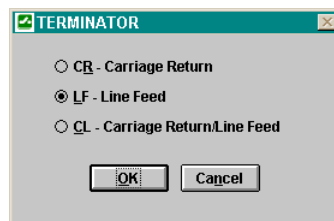

Figure 60 Terminator Window
7. Click the **Terminator** button to open the TERMINATOR window (Figure 60).